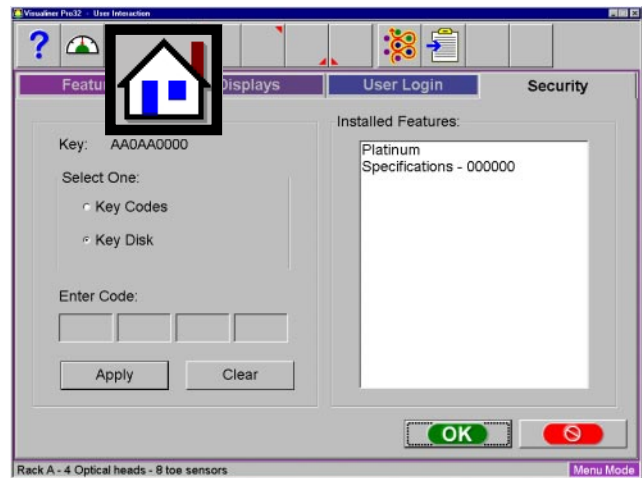

Figure 3-21
5. Jump back to the Main Alignment menu by clicking on the “**HOME**” key in the upper left hand corner. (Figure 3-21)